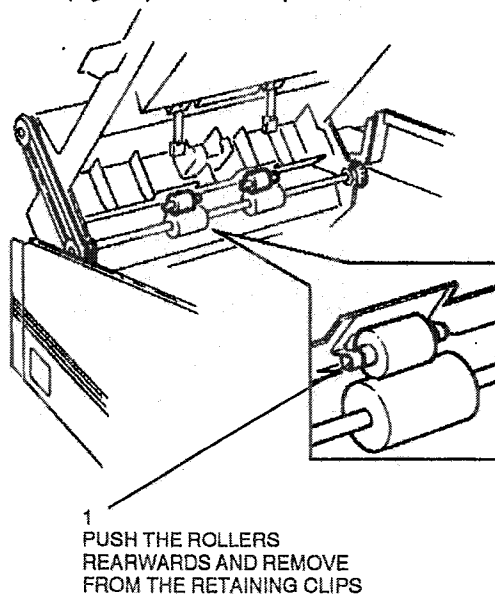

Figure 1. Output roller removal
4. (Figure 1) remove the output rollers.